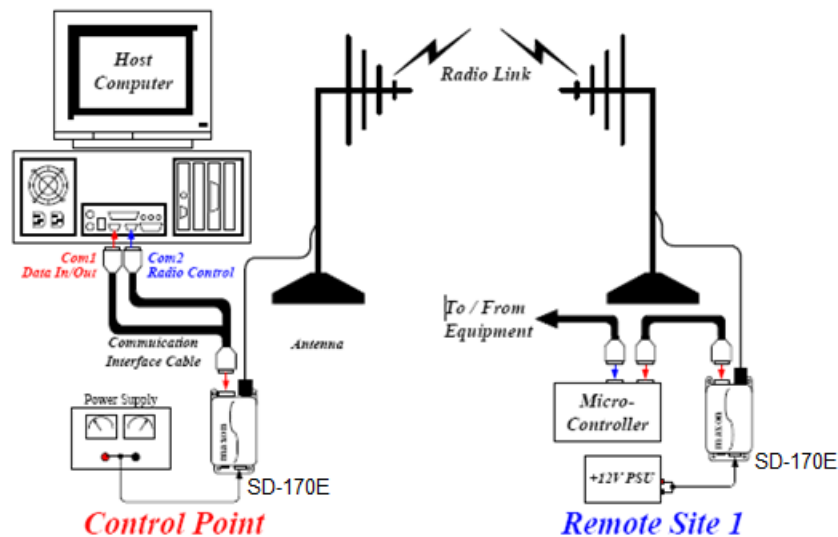

Figure 4.2. Telemetry Application
2. Point to point telemetry using FFSK or GMSK modulation with RS232 control via a micro-controller. User applications for this may include remote control data links such as control of a remote paging transmitter or single direction status reporting or data flow (see Figure 4.2.) from a gas pipeline monitoring station.